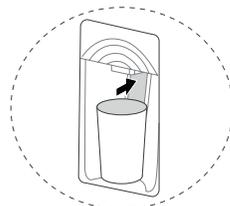

Figure 2
- Push the water shank inward by the cup. (Figure 2)